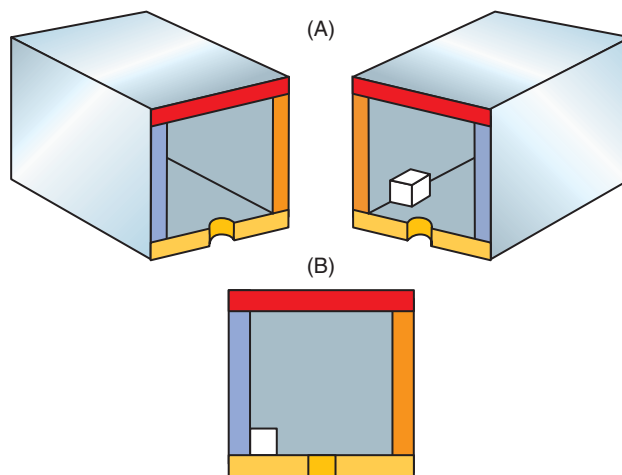
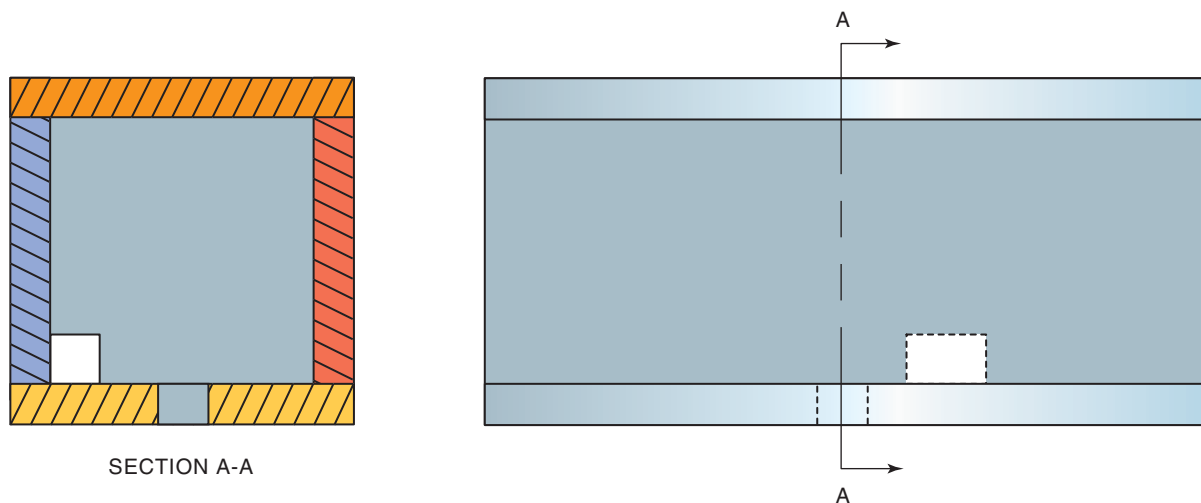

Figure 3.25 Section drawing
Figure 3.26 Cutting plane line and section
- The *section view* is drawn as if part of the object were sawn away to reveal internal details, Figure 3.25. This view is useful when the internal details would not be as clear if they were shown as hidden lines. Sections can be either fully across the object or just partially across it. The imaginary cut surface is set off from other noncut surfaces by section lines drawn at an angle on the cut surfaces. The location of this imaginary cut is shown using a cutting plane line, Figure 3.26. Some drawings use specific types of section lines to illustrate the type of material the part was made with.